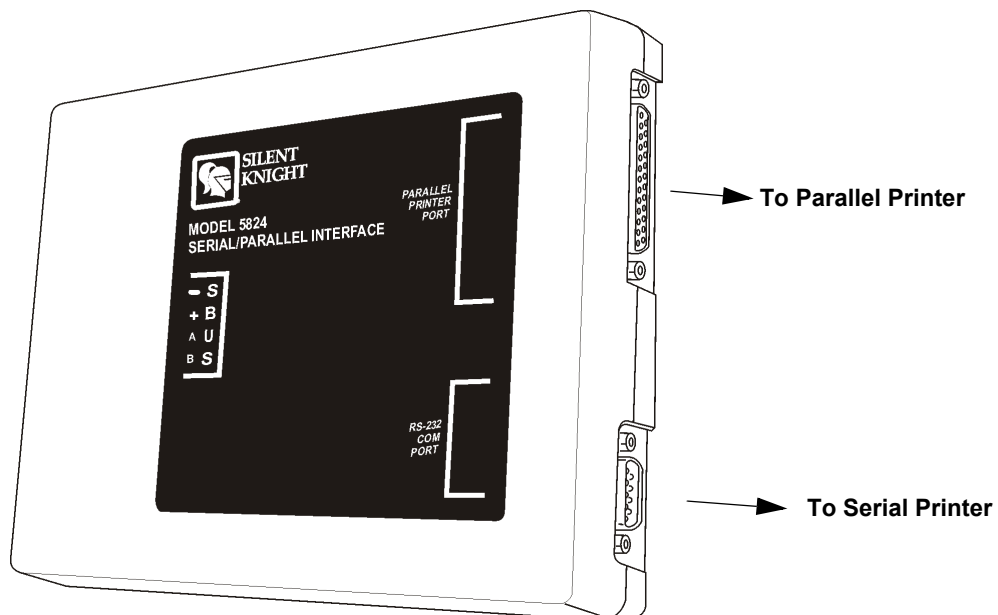

Figure 4-15 Printer Connection
5. Connect a printer to the 5824 as shown in Figure 4-15.